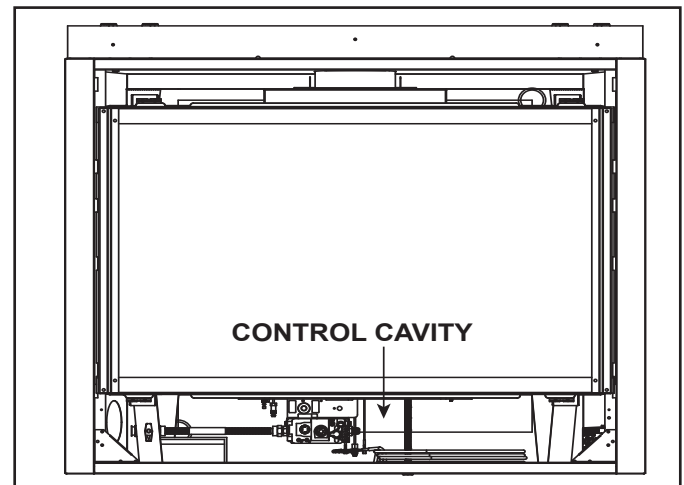

Figure 3.5 Control Cavity Location - Generic Fireplace Show
The IntelliFire™ Plus intermittent pilot ignition system comes with a battery backup system that enables the system to operate in a power outage. The system offers seamless transition from household AC power to battery backup. A factory-installed battery pack is located in the control cavity of the appliance. See Figure 3.5. Battery longevity and performance will be affected by long term exposure to the service temperatures of this appliance.
1. Access the control cavity of the appliance. See Figure 3.5 for location. The decorative barrier front may need to be removed.
2. Locate the battery tray and insert four AA cell batteries. Battery polarity must be correct or module damage will occur. See Figure 3.5. A complete wiring diagram is included in the Electrical section of the appliance Installation Manual.